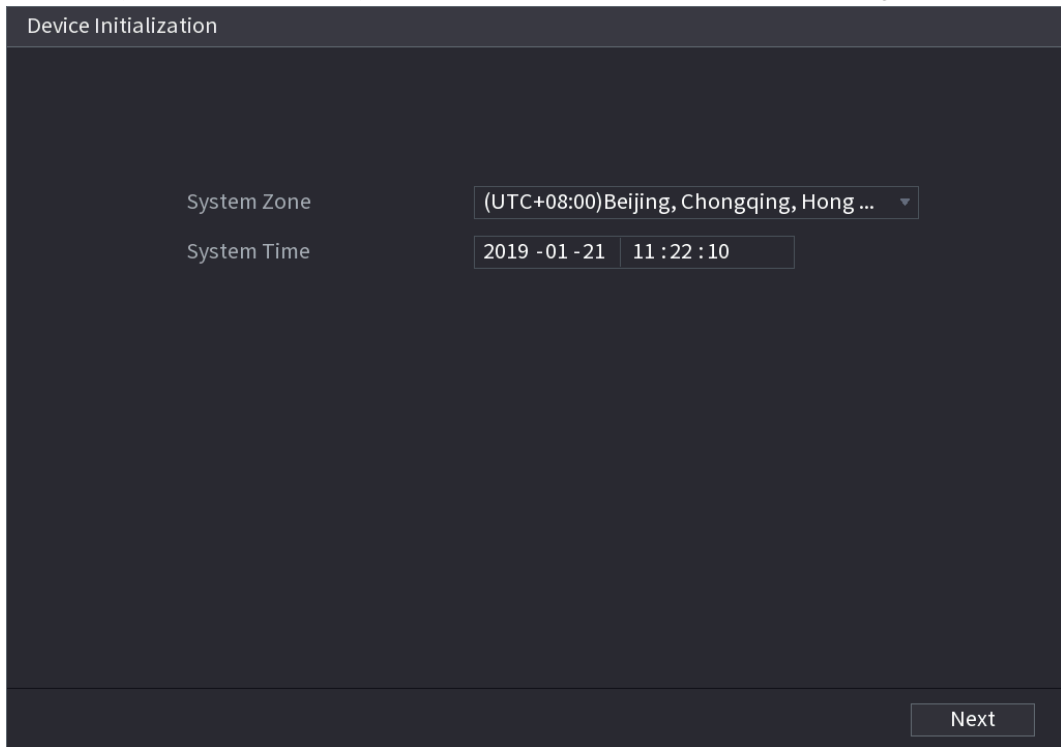

Figure 5-3
**Step 4** Tick the check box that **I have read and agree to all terms**, and then click **Next**. The **System Zone** and **System Time** interface is displayed. See Figure 5-3.